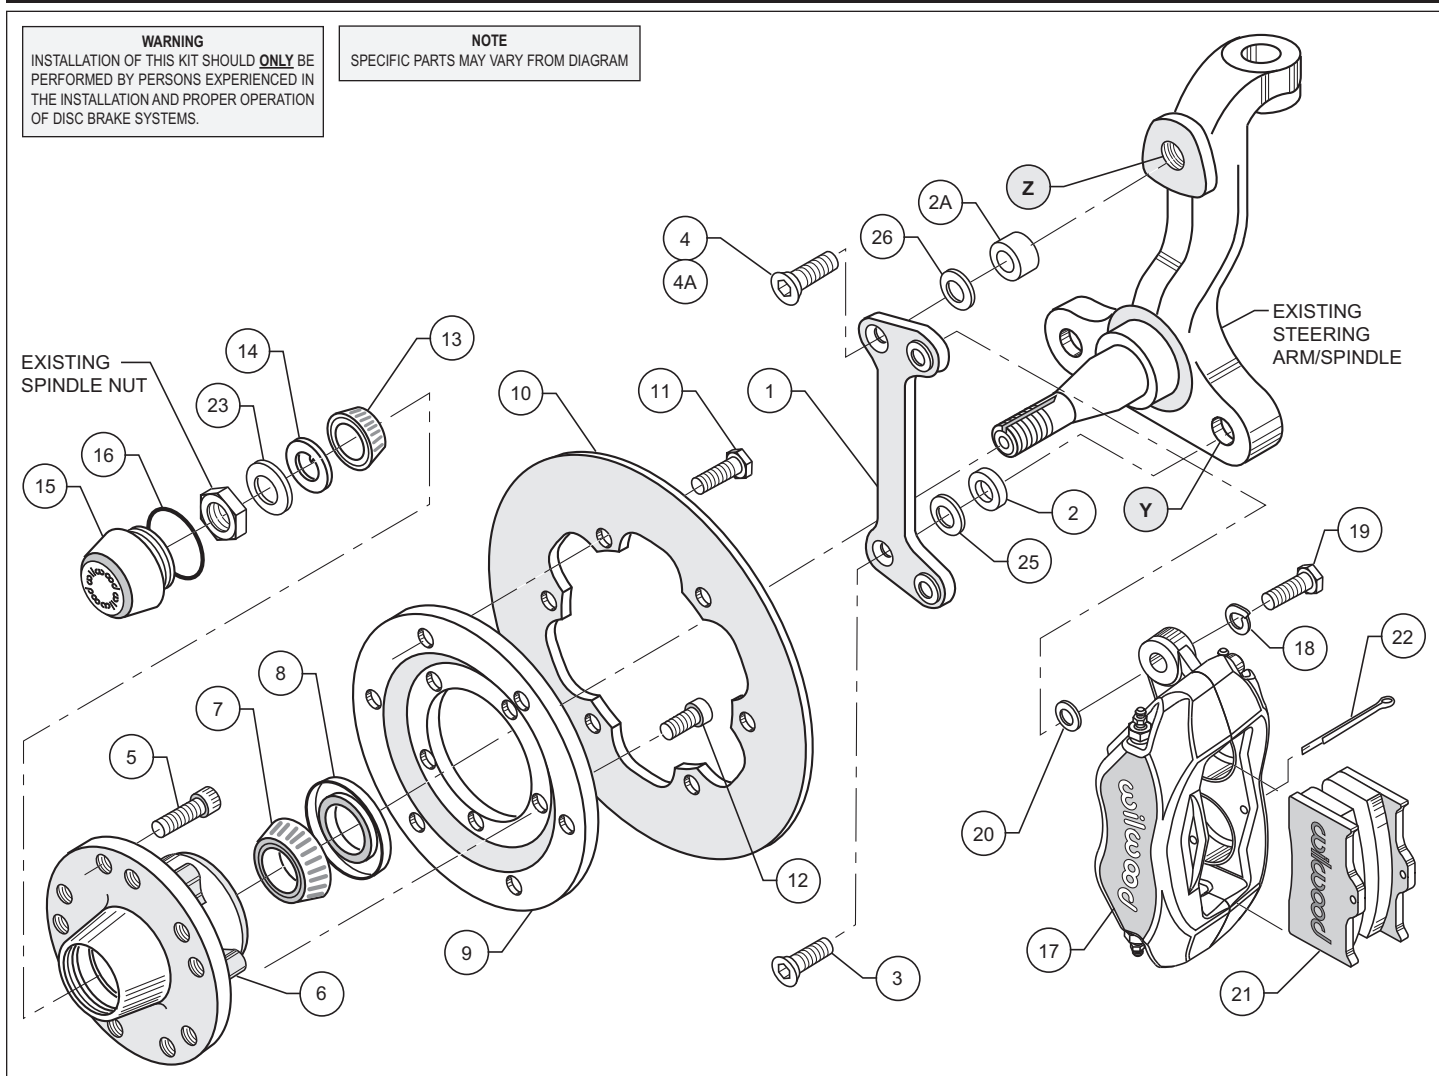
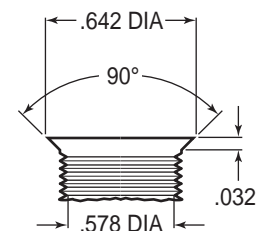
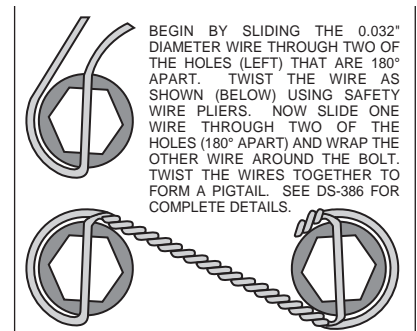

Figure 1. Typical Installation Configuration
Figure 3. Drill and Tap Detail
Figure 4. Safety Wire Diagram
•**NOTE:** 1964-66 spindles may require the following modifications (reference Figure 1 and Figure 3): Top anchor pin hole (Z) must be drilled and tapped to the dimensions as outlined in Figure 3. Bottom rear steering arm bolt hole (Y) in the spindle and steering arm must be enlarged to .50" by drilling. A 1/2-20 backing nut (not supplied in kit) will need to be acquired to torque bracket / steering arm bolt (supplied in kit).
•Apply red *Loctite*® 271 to bolt threads (3 and 4, or 4A for disc spindle application) before assembly of the caliper mounting bracket (1). Mount bracket (1) to dust face plate of spindle using the bottom bolt (3) while positioning spacer (2) between bracket and spindle face, finger tighten only. Install the upper bolt (4, or 4A with spacer 2A positioned between bracket and top hole of spindle face), torque to 120 ft-lb. Torque bolts (3) to 77 ft-lb. **NOTE:** Be sure the heads of the bracket (1) insert nuts are facing outward toward the wheel. **NOTE:** Because of a tolerance variation among spindles, it may be necessary to install a shim washer (25 and/or 26) between the spacers (2 and/or 2A) and the bracket (1) in order to square the bracket to the rotor.
•Install wheel studs (5) into the hub (6). Torque to 77 ft-lb. **NOTE:** There are two five lug patterns in the hub (5 x 4.50 and 5 x 4.75). Make sure of the correct hole pattern for the correct wheel application before installing studs into hub.
•Pack the large inner bearing cone (7) with high temperature disc brake bearing grease (available from your local auto parts store) and install into the backside of the hub (6).
•Install the grease seal (8) by pressing into the backside of the hub (6).
•Attach rotor adapter plate (9) to rotor (10) using bolts (11). Torque bolts (11) to 180 **in-lb**. Safety wire bolts (11) using standard 0.032 inch diameter stainless steel safety wire as shown in Figure 4. Please refer to Wilwood's data sheet DS-386 (available at [www.wilwood.com/pdf/ds386.pdf](http://www.wilwood.com/pdf/ds386.pdf)) for complete safety wire installation instructions. **NOTE:** Dished side of adapter plate (9) should face hub (6). The counterbored side of the steel rotors (10) should face away from the adapter plate (9).
•Mount the adapter/rotor assembly (9 and 10) to the hub (6) using bolts (12). Torque bolts (12) to 22 ft-lb. Safety wire bolts (12).
•Pack the small outer bearing cone (13) with high temperature disc brake bearing grease and install into front of hub (6). Slide the hub/rotor assembly (6 and 10) with outer bearing cone (13) onto the spindle. Secure using spindle washer (14), stock adjusting nut and nut locking device. Adjust bearings per Original Equipment Manufacturer (OEM) specifications. **NOTE:** Because of a tolerance variation among spindles, it may be necessary to install a shim washer (23) between the spindle washer (14) and the spindle nut if the spindle nut will not tighten down all the way. There are four supplied in the kit for your convenience.
•Install the dust cap (15) onto the hub (6). Friction created by the o-ring (16) on the dust cap (15) keeps it from unscrewing. The O.D. of the existing spindle washer may be larger than the I.D. of the dust cap (15) not allowing it to seat against the hub face. Some grinding on the washer O.D. may be necessary to clear the I.D. of the dust cap (15).
•**NOTE:** Please reference the caution statement at the beginning of the assembly instructions. With the bleed screws pointing up, mount the caliper (17) onto the caliper bracket (1) using lock washers (18), bolts (19) and caliper spacer (20) positioned between caliper and bracket. Finger tighten. View the rotor (10) through the top opening of the caliper (17). The rotor (10) should be aligned in the center of the caliper (17). If not, adjust the caliper (17) by using 0.032 inch thick shims (20) placed between the caliper mounting bracket (1) and the caliper (17). Finger tighten and recheck alignment. Apply red *Loctite*® 271 to bolt threads (19) and torque to 30 ft-lb. Safety wire caliper bolts (19).
•Install the disc brake pads (21) and secure using cotter pin (22).